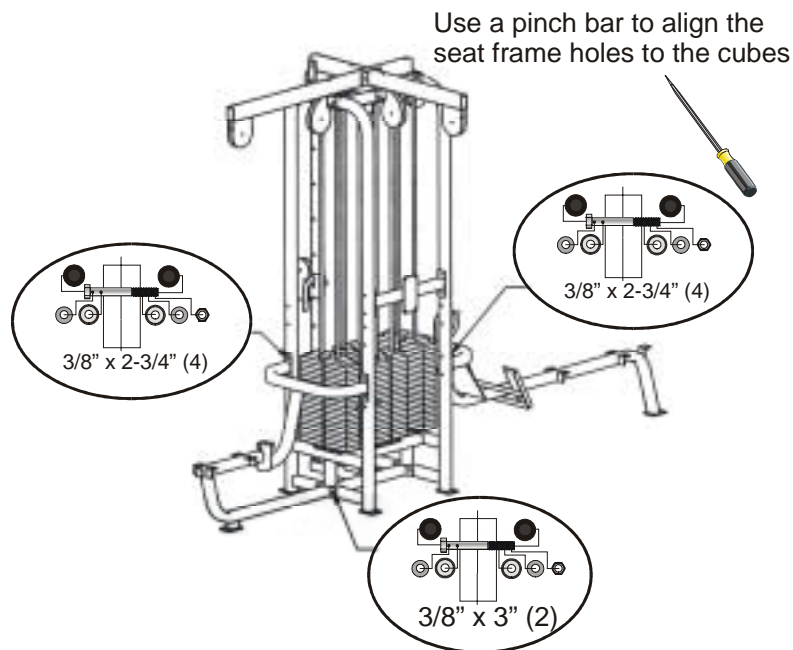

Figure 11. Mount the benches to the frame.
7. **Mount the seated row and lat benches to the frame.** Using the bolts specified and 9/16" socket and combination wrenches, mount the benches as shown in Figures 11 and 12.